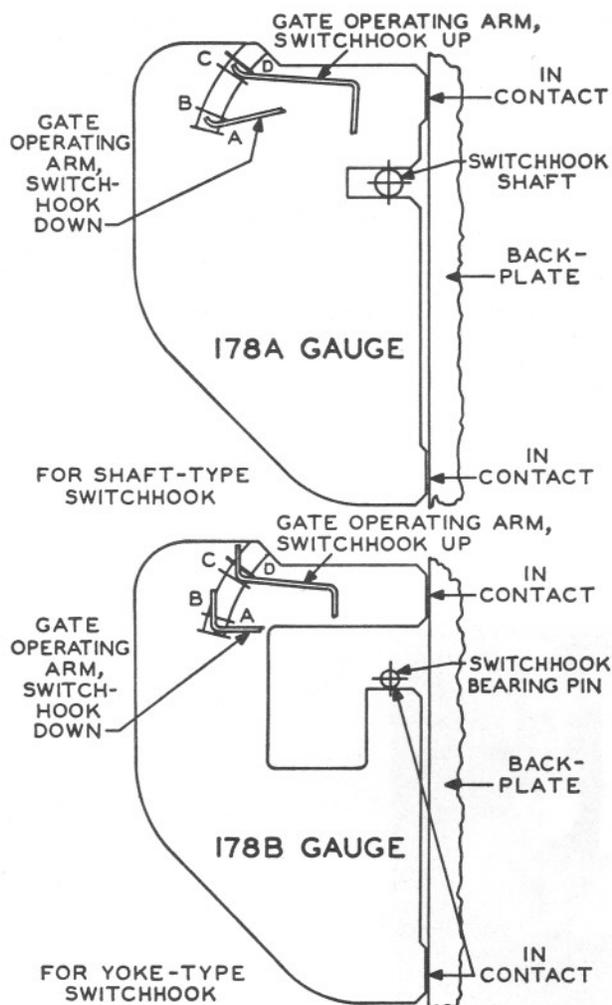

FIG. 5—GATE OPERATING ARM ASSEMBLY
6.09 If above requirements are not met, adjust operating arm, using a 178A or 178B gauge as shown in Fig. 5, to meet the following requirements: